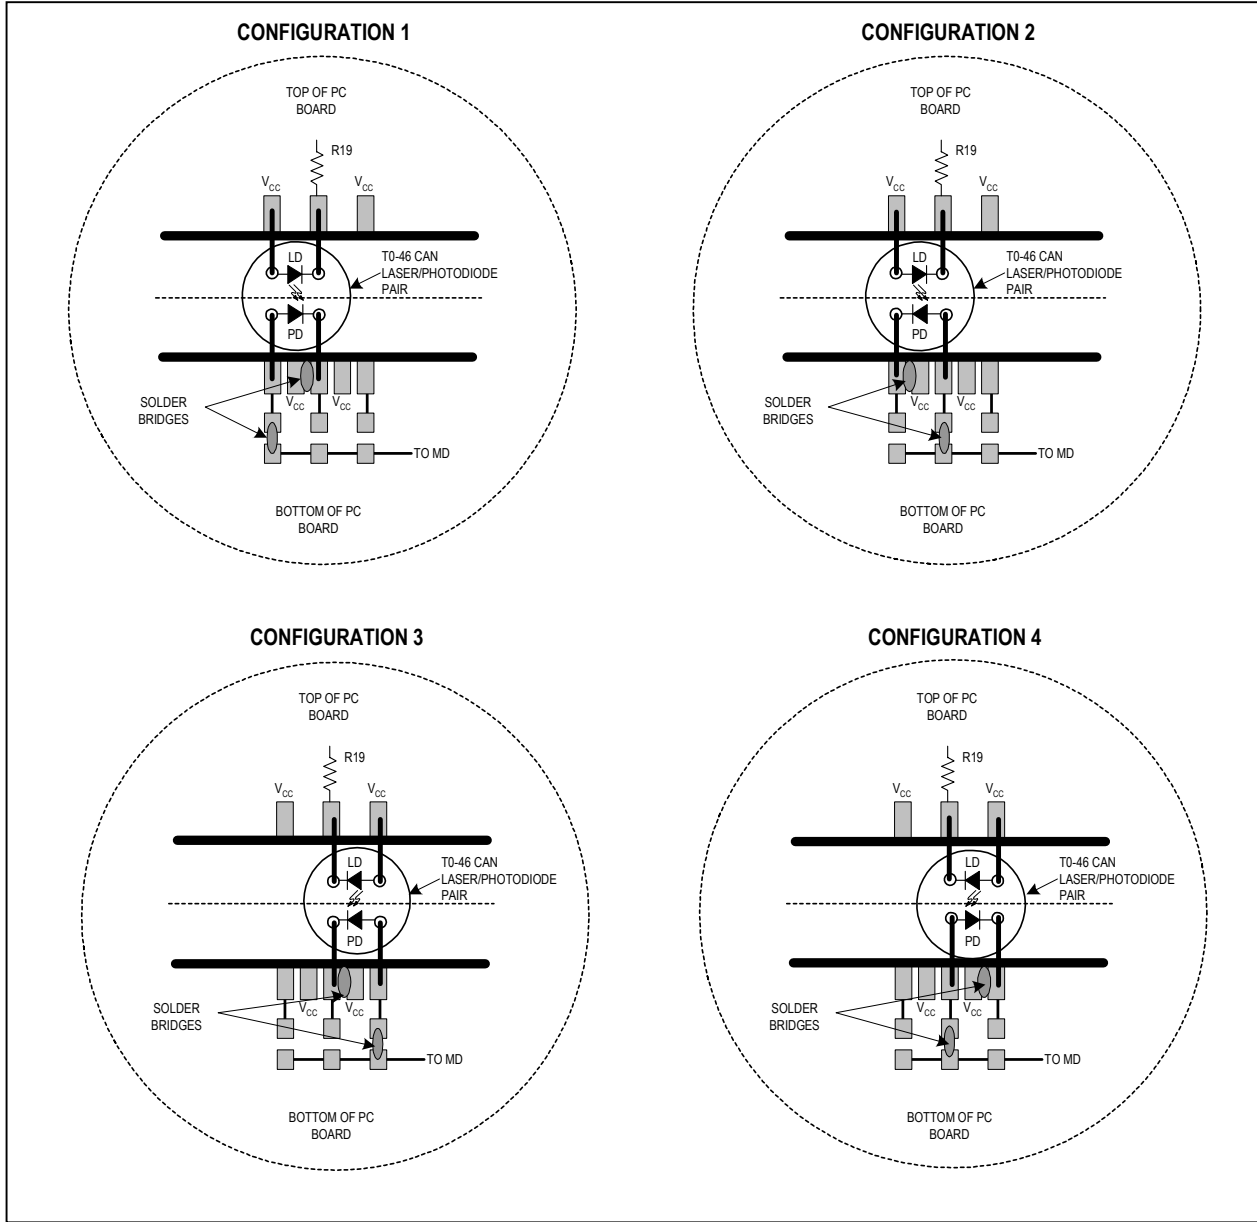

Figure 1. Attachment of Laser Diode/Monitor Diode to the MAX3738 EV Kit
- 4) The EV kit is designed to allow connection of a variety of possible laser/monitor diode pin configurations. Connect a TO-header style laser with monitor diode (Figure 1) as follows:
- Connect the monitor photodiode to two of the five pads on the bottom (solder) side of the PC board, directly below the laser diode pads. Connect the anode and cathode of the photodiode as shown in figure 1.